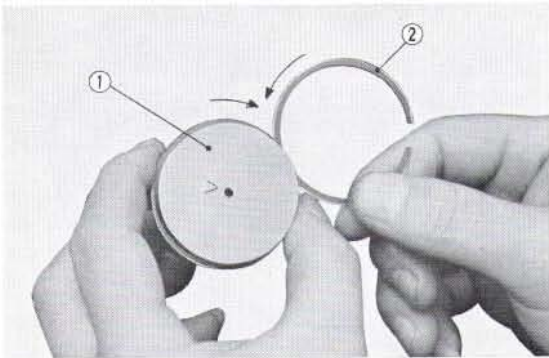

Fig. 2.31 ① Piston ② Piston ring
- a. When assembling new rings, roll the rings in their respective piston grooves to check the fit. (Fig. 2.31)